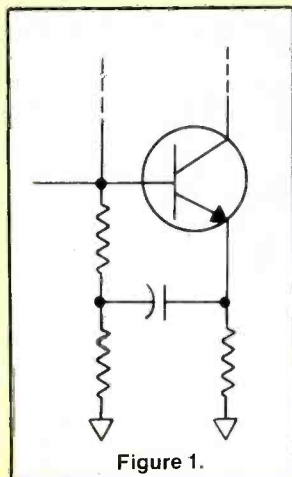

Figure 1.
2. The purpose of the circuit in Figure 1 is to